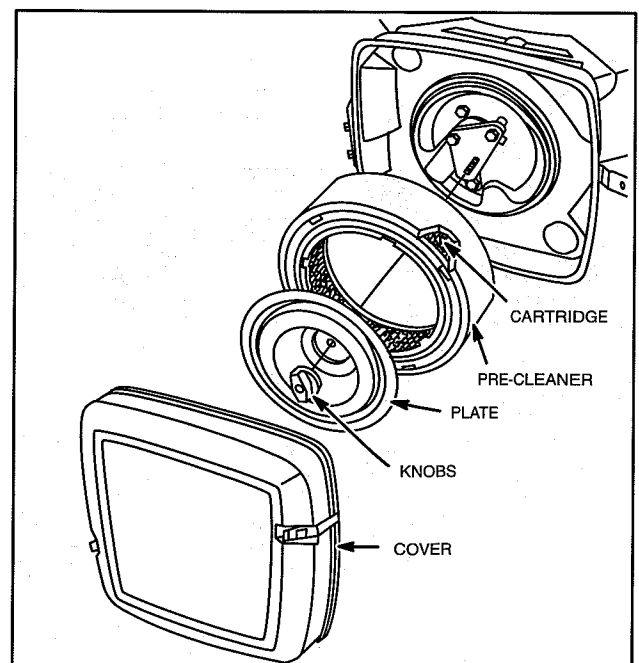
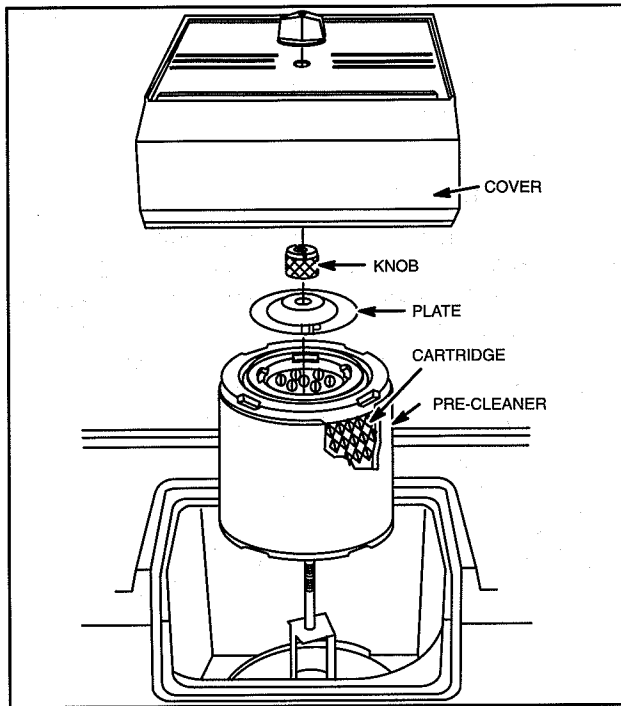

Fig. 5 – Round Dual Element Air Cleaner
Fig. 6 – Round Dual Element Air Cleaner
Remove and service foam pre-cleaner every 25 hours or every season, whichever occurs first, Fig. 5 or Fig. 6. Service cartridge every 100 hours or every season, whichever occurs first.
1. Remove cover assembly, Fig. 5 or Fig. 6.
1. Remove knob and cover plate, Fig. 5 or Fig. 6.
2. Reinstall air cleaner cover, Fig. 5 or Fig. 6.